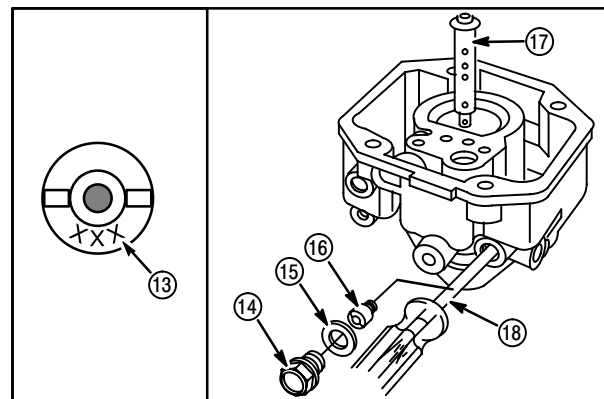

Fig. 109
13. Install fixed main jet (16) with Jet Screwdriver #19062 (18), **Fig. 109.**
14. Install washer (15) and plug (14).
15. Install emulsion tube (17).